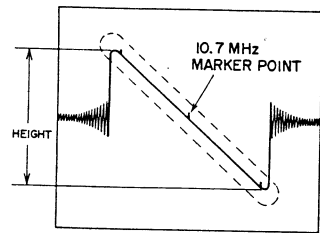

Fig. 4
- 3) Set Receiver SELECTOR to FM AUTO, and tuning indicator needle to extreme right end of the dial. At this time confirm that a noise element does not enter the S Curve shown in Fig. 4.
- 6) Adjust the upper and lower cores of Discriminator Coil so that the wave height value of the S Curve shown in Fig. 4 is maximum and the linearity of the part indicated by the dotted line is optimum. (Refer to Fig. 4 and Chart 3)